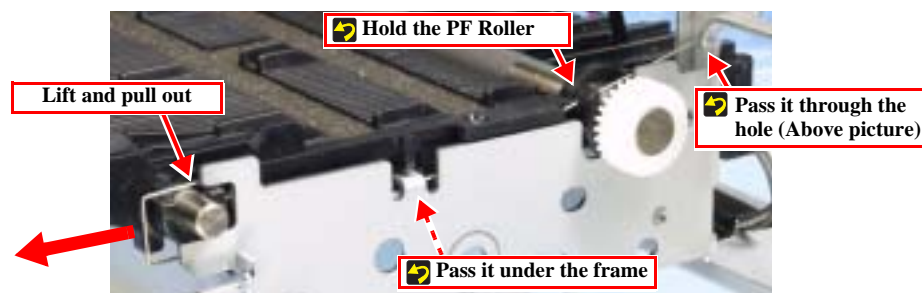

Figure 4-81. Removing the PF EJ Ground Spring
- See Fig.4-81 and install the Ground Spring.